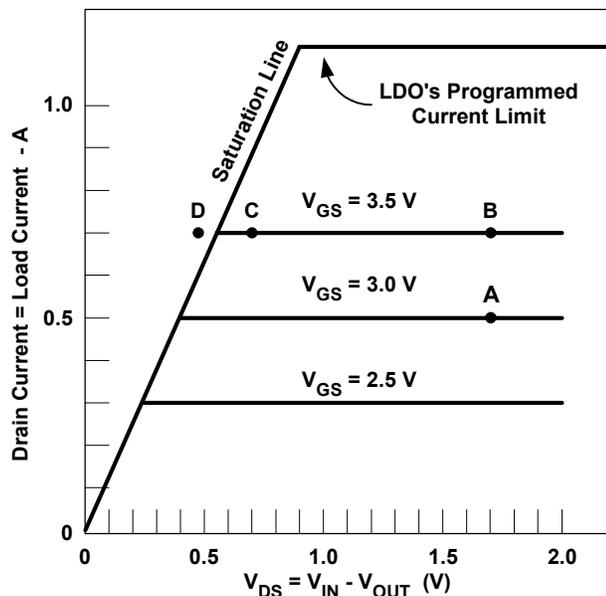
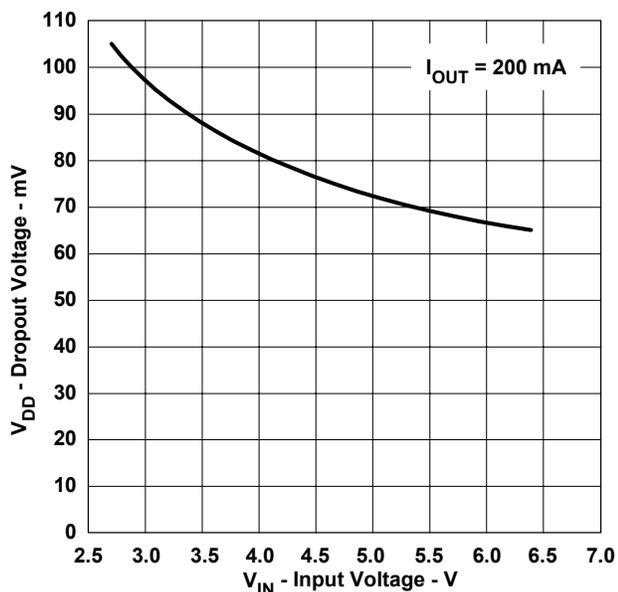

Fig. 3 Operating region of an LDO's N-channel pass element.
Fig. 7. TPS79901 dropout voltage vs. input voltage.
Fig. 3 shows the operating region of an LDO's N-channel pass element. The range of operation is limited in the x-axis by the saturation region of the pass element, and limited in the y-axis by either the pass element's saturation region or by the IC's programmed current limit. In order to operate properly and maintain a regulated output voltage, the pass element must operate within the boundaries set by these two lines. In the example, the drain-to-source voltage of 1.7 V and the drain current of 500 mA set the operating point at "A." At this point, the LDO sets the pass element's gate-to-source voltage at 3 V to maintain regulation. A line drawn through the origin and point "A" represents the 3.4- Ω resistance.
Consider a change to the static conditions in the example: if the load resistance decreases (an increase in load current), the LDO must react to maintain regulation. If it doesn't react, the LDO has a higher voltage drop across the pass element which causes the output voltage to fall out of regulation. The LDO must decrease the pass element's resistance by increasing the gate-to-source voltage on the FET. When the gate-to-source voltage increases, the operating point moves upward, assuming a fixed input and output voltage. If $I_{OUT} = 700$ mA, the error amplifier increases the pass element's gate-to-source voltage to 3.5 V to maintain regulation. This corresponds to "B." A line drawn through the origin and point "B" now represents a pass element resistance of 2.4Ω . Fig. 3 shows that with a drain-to-source voltage of 1.7 V, the LDO's maximum current draw is only limited by the maximum programmed current limit.
LDO datasheets can only specify the IC's dropout voltage under a limited number of operating conditions. Few datasheets provide a graph like that shown in Fig. 3. For all other conditions, the user must interpolate the data to determine the dropout voltage at a specific output current. This task is surprisingly easy. As an example, consider an application that requires $V_{OUT} = 3$ V at 170 mA with an input voltage that varies between 3.15 V and 3.45 V. The designer has chosen a TPS79330 LDO and needs to know if it can be ensured that the LDO doesn't enter dropout.
Table 1 shows the datasheet's ensured dropout voltage from the parametric table. The datasheet shows that the maximum dropout voltage (ensured over all temperatures) for a 3.0 V output at 200 mA is 200 mV. The minimum input voltage of 3.15 V for this application requires the effective dropout voltage be less than 150 mV at 200 mA. For this regulator, the actual dropout is less than 200 mV since the current is less than 200 mA, but the datasheet does not specify the dropout voltage at 170 mA. When operating in dropout, the LDO pass element is at its minimum $R_{DS(on)}$ which is equivalent to operating on the saturation line like the one shown in Fig. 3. This minimum resistance is calculated by dividing the dropout voltage by the test current. The TPS79330 pass element minimum $R_{DS(on)}$ is shown in Equation (3).
Another factor affecting an LDO's minimum dropout resistance is the input voltage to the device. This is a second-order effect, but is worth noting. The higher output voltage options require a higher input voltage, which allows the device to drive the pass element harder, and in turn provides a slightly lower resistance. Most discrete FET datasheets show a change in $R_{DS(on)}$ versus gate-to-source voltage. Some LDO datasheets provide a graph (Fig. 7) of dropout versus input voltage, but this is rare. Even without a graph, this information is evident from the dropout data shown in Fig. 4. The 3.0-V option (TPS79330) in Fig. 3 has a 200-mV dropout voltage while the 4.75-V option (TPS793475) has a 125-mV dropout voltage. This is a 37 % reduction in dropout voltage.